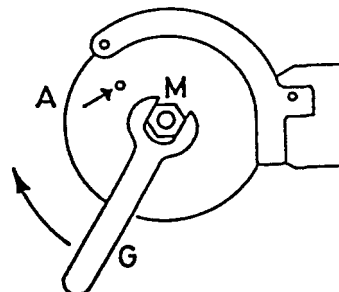

Figure 5: Fixing the saw blade
- Insert the locking pin (A) into the bore of the saw blade and turn with the saw blade against
the safety hood (H). Place an open-jaw wrench (G) onto hex. clamping nut (M) and tighten firmly in the direction shown (tightening torque: 50 Nm). Do not tighten the hex. clamping nut with force. Do not use any further tools (see Fig. 5).